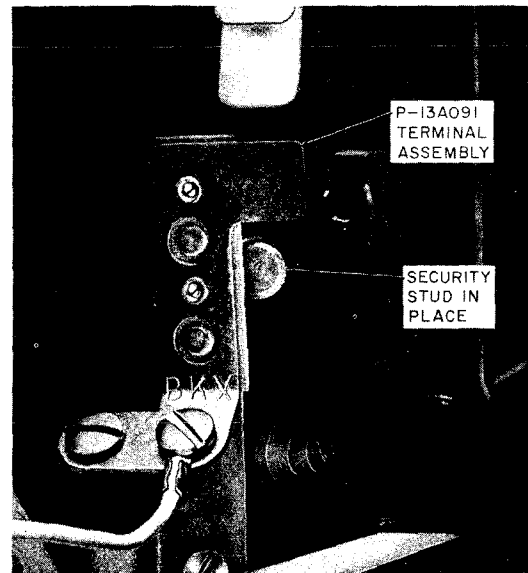
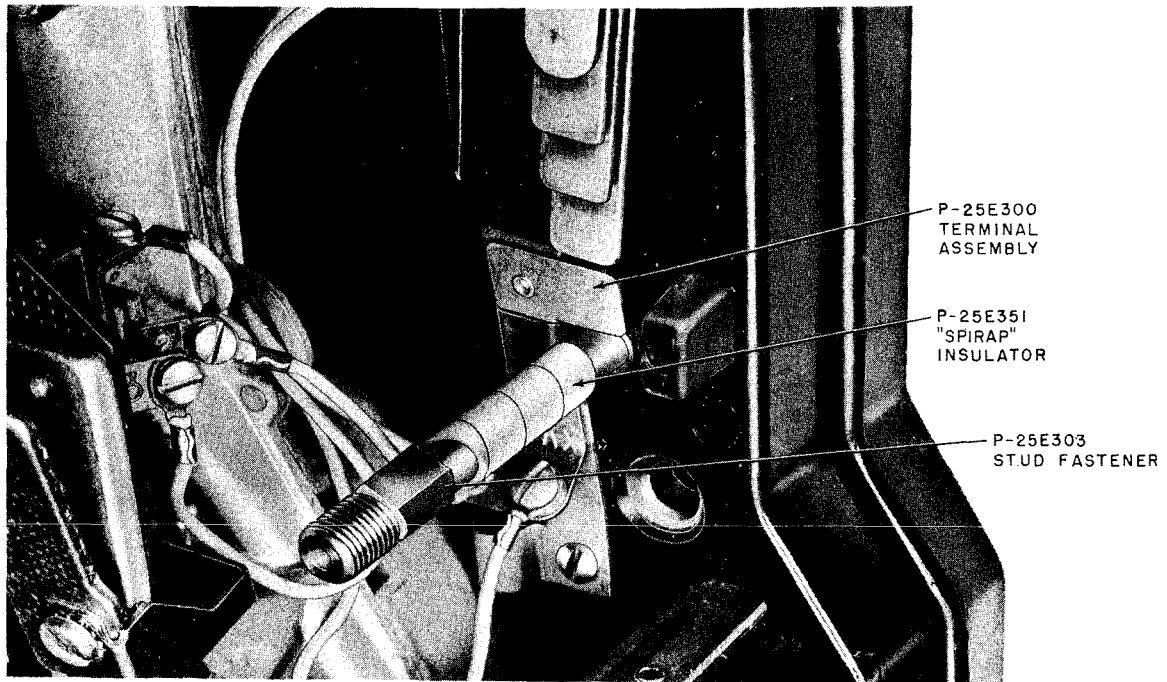
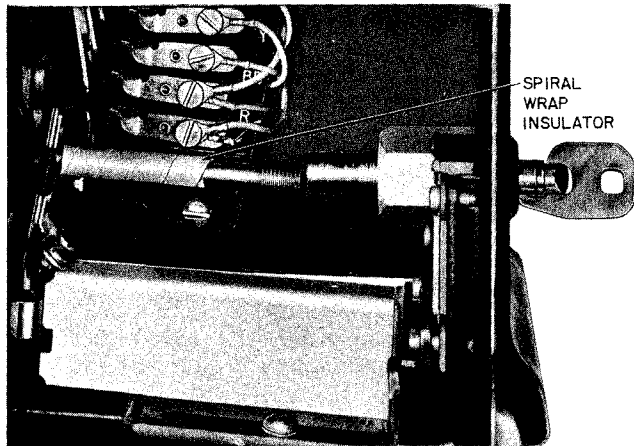

Fig. 16—P-13A091 Terminal Assembly with Security Stud Installed
Fig. 17—New Terminal Assembly, Insulator, and Stud Fastener
Fig. 21— Cutaway Section of Upper Housing Showing Mating of Bolt Fastener and KS-19277 Lock
3.14 The P-13A091 BKX terminal assembly (Fig. 16) must be replaced with a P-25E300 terminal assembly to provide clearance for fasteners (Fig. 17 and 18).
- If a security stud is present in the lower right security stud hole (Fig. 16), the appropriate bolt fastener (3.15) may be used after removing the security stud.
3.20 Use the P-25E303 stud fastener (Fig. 17) where maximum security is *not* essential, but where protection is desired against unauthorized use of the 10-type upper housing key.
3.22 Use a P-25E351 "SPIRAP" insulator on either the bolt or stud fastener (Fig. 17 and 18). The purpose of the "SPIRAP" is to eliminate the possibility of the fastener grounding the lower lug of the housing contacts. To install, start at the BKX terminal and wind the "SPIRAP" in "barber pole fashion" around the stud or bolt. Do not allow the "SPIRAP" to cover any of the threads on the exposed end of the stud or bolt. Redress the wiring to the upper housing contacts (Fig. 21).